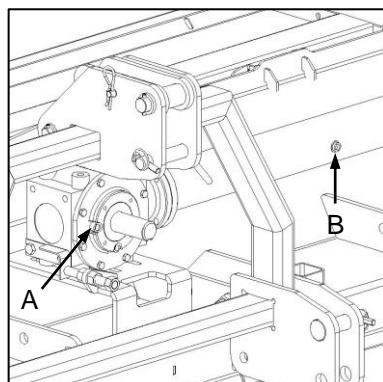

Fig. 9
- ✓ The gearbox (Fig. 9-A) and extension housing (Fig. 9-B) are equipped with filling ports. Check oil levels in both locations.
- ✓ Die ratkas (Fig. 9-A) en verlengomhulsel (Fig. 9-B) beskik oor olievlakpunte. Olievlakte moet by albei punte nagegaan word.